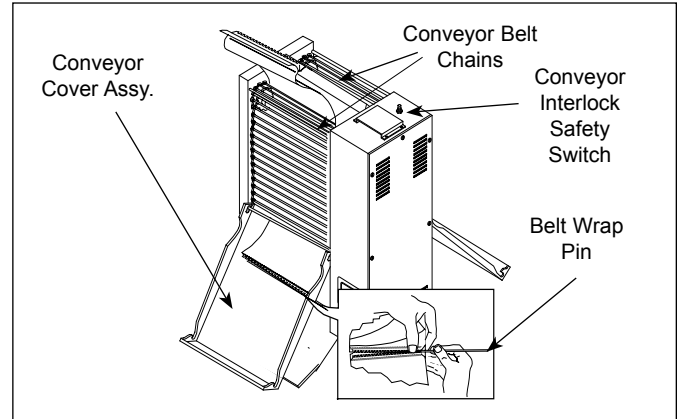

Figure 8. Removing Belt Wrap
3. Open both Conveyor Covers and pull the Belt Wrap Pin out of the “zipper” (Figure 8).
3. Open both Conveyor Covers and pull the Belt Wrap Pin out of the "zipper" (Figure 8).